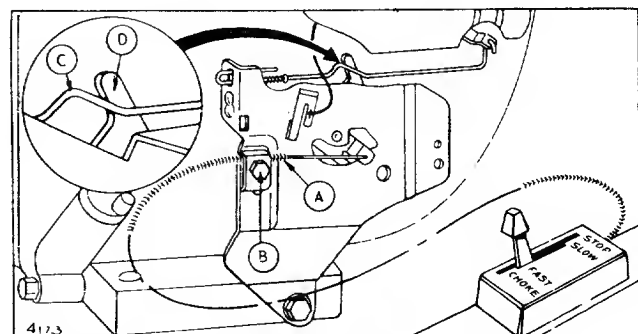

FIGURE 28. CHOKE ADJUSTMENT
If the spring tension idler goes below the height of the engine pulley when the clutch-brake pedal is depressed it will cause excessive belt wear and the brake should be adjusted. See figure 28.
Step 3. Remove the shoulder bolt near the trans-axle pulley. See figure 28.
Place remote control lever on equipment in FAST (high speed) position. Loosen control casing clamp screw "B". Move control casing "A" and wire until lever "D" touches choke operating link at "C". Tighten casing clamp screw "B". Replace air cleaner. See figure 28.